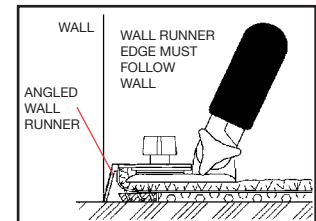

FIG. 10
- The wall runner has a plastic protective pad and is angled away from the wall to help reduce marking of the baseboards (see fig. 10).
2. Place the trimmer into the cut. Keep the bottom of the trimmer flat against the carpet, and the bottom edge of the wall runner at the junction of the floor and the wall (see fig. 10).